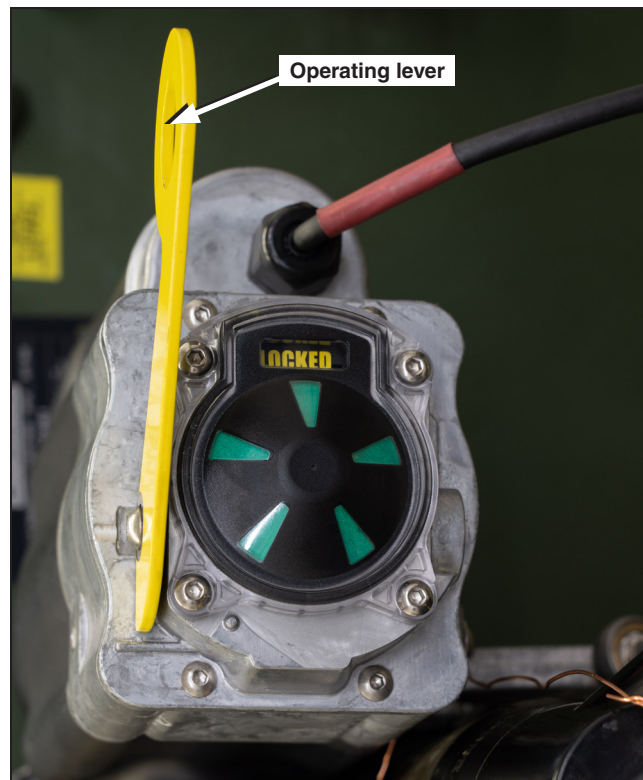
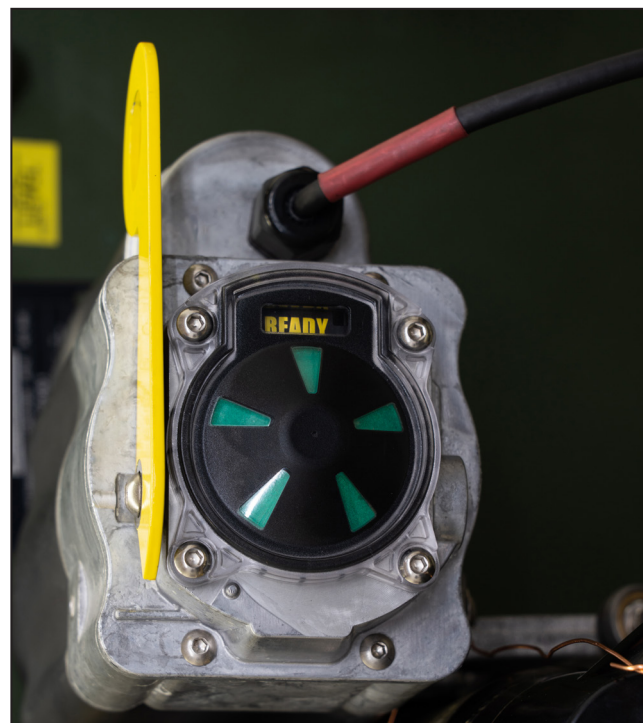

Figure 13. Toggle the yellow operating lever toward and away from the transformer three times, ending in the Ready (back) position.
Figure 14. A bushing well interrupter, before closing, in the Open and Ready position.
- STEP 2.** With a shotgun-style hotstick or a hotstick fitted with a distribution prong, engage the yellow operating lever. See Figure 13 and Figure 14. Starting in the **Open and Locked** position, toggle the operating lever toward the transformer to the **Open and Ready** position three times, leaving it in the **Open and Ready** position on the third toggle. Then, carefully release the lever. Each toggle must be completed within 10 seconds, and the sequence of three toggles must be completed within 30 seconds.